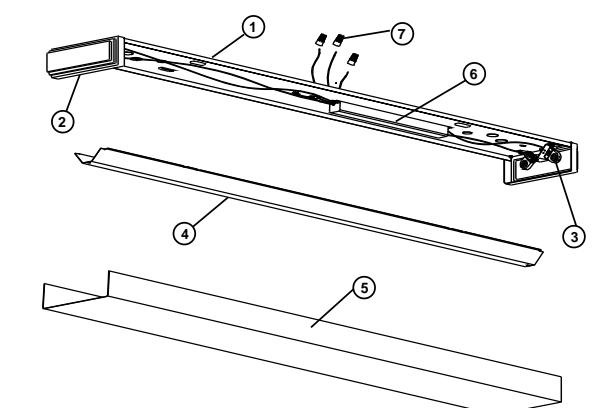

Figure 1
1. Remove fixture components and parts pack(s). Check that all parts are included. See Figure 1.